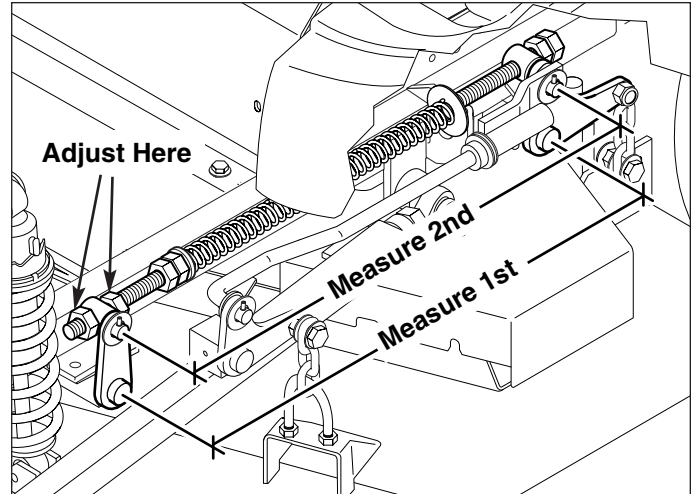

Figure 32. Spring Rod Adjustment
5. See Figure 32. Measure the distance between the lift pivots and the spring rod pivots. Adjust the 5/8" hex nuts on either side of the front spring rod pivot until the measurements are equal.